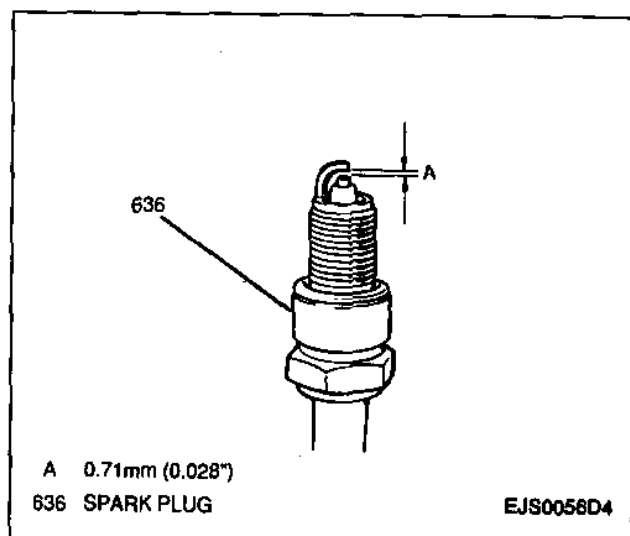

Figure 6—Spark Plug Gap
- Set spark plug gap to 0.71 mm (0.028-inch) (Figure 6).